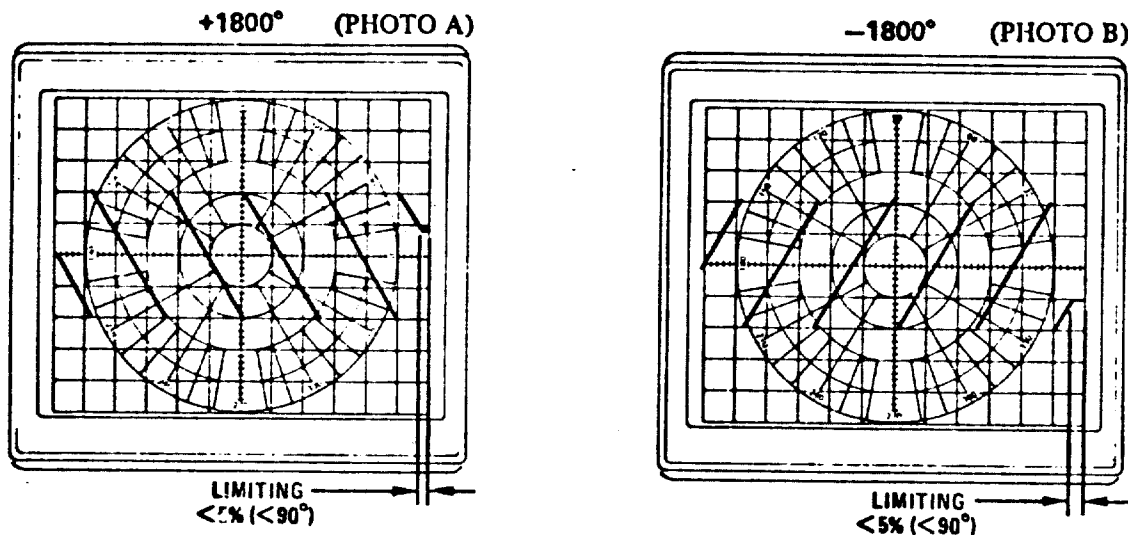

Figure A4-17. Phase Trace with Maximum Electrical Length Added
- o. With ELECTRICAL LENGTH offset pushbuttons, put in +1800 degrees of electrical length. (The electrical length readout displays +180.) Verify that five transitions are displayed and that the linear phase display limits over approximately the last 5% of the trace or 0.6 divisions. (See Figure A4-17, Photo A.)
- q. With ELECTRICAL LENGTH offset pushbuttons, put in  $-1800$  degrees of electrical length. (The electrical length readout displays  $-180$ .) Verify that five transitions are displayed and that the linear phase display limits over approximately the last 5% of the trace or 0.6 division. (See Figure A4-17, Photo B.)